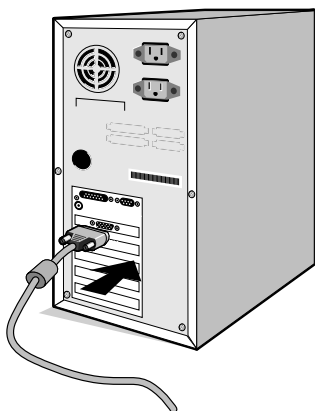

Figure A.1
3. **For PC:** Connect the 15-pin mini D-SUB of the appropriate signal cable to the connector for the display card in your system (**Figure A.1**). Tighten all screws.